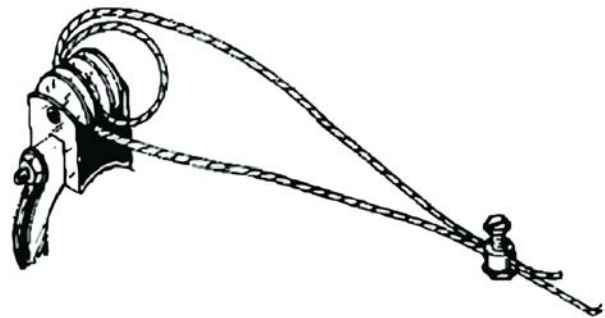

Figure 53. Anti-Roost Cable at the Hopper
7. Start at the hopper end of the line and form a loop around the anti-roost bracket. For best results, make a double loop around the anti-roost insulator in the center groove of the insulator and fasten with a 1/16" cable clamp as shown in **Figure 53.**